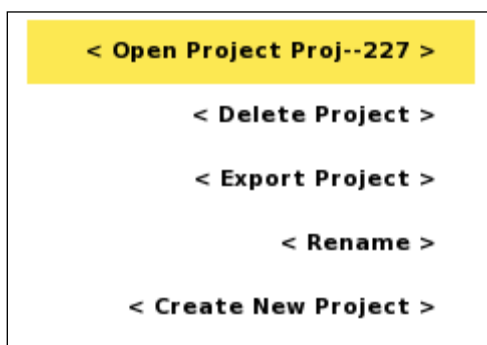

Figure 16 *Project Option menu with Open item highlighted*
- Press <Options> and the option menu of Figure 16 will be shown